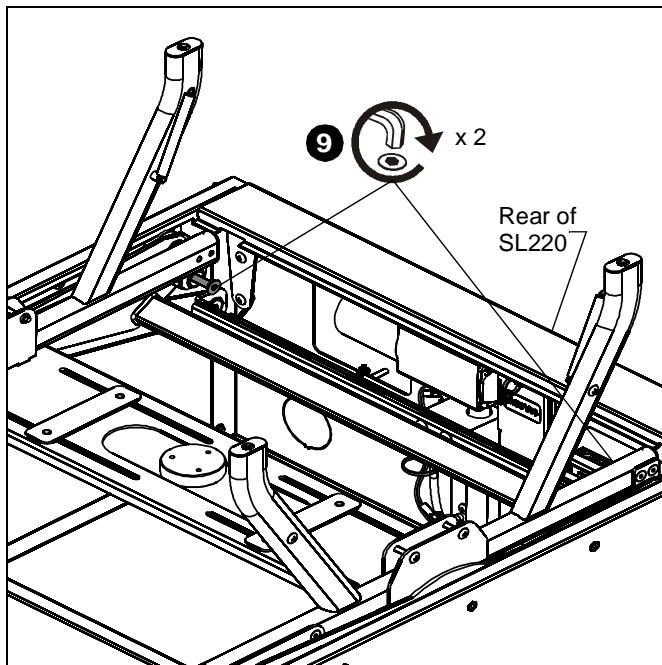

Figure 16
8. Line up rear spacers with attachment holes on SL220 arms. (See Figure 16)